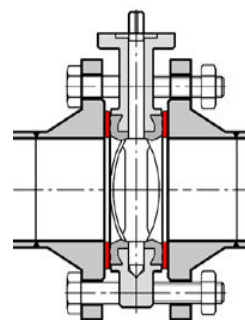

Fig. 3
- Flange gaskets are not allowed to use (See figure 3)